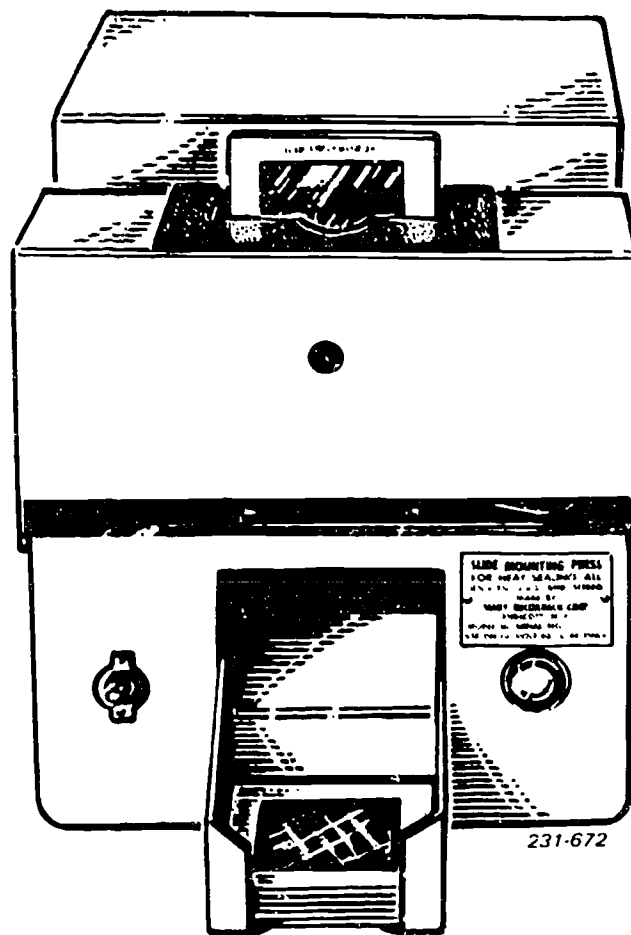

Figure 5-12. "Seary" model III slide mounting press.
**Mounting.** Now that you have all your transparencies cut, begin mounting them. If you are using cardboard mounts, they will have to be sealed. There are two kinds of cardboard mounts. Some are already sealed on three sides, and others are unsealed on three sides. Before they can be projected, they must be sealed on all four sides after the transparencies are inserted. Both heat and pressure are needed to seal the cardboard mounts. A slide mounting press like the one shown in figure 5-12 does the job very quickly. Just drop your slide and mount combination into the slot on top of the press and depress the footswitch. It will seal the mount on all sides in one operation and drop it into a bin in front of the press.